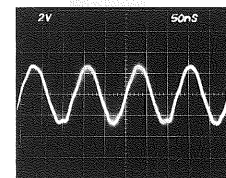

Fig. 4-12
- 1) Clock Generator Performance Checks (See Fig. 4.12)